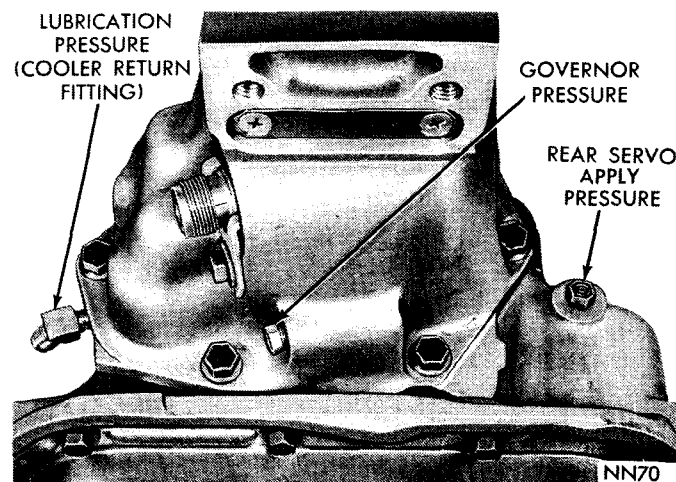

Fig. 15—Pressure Test Locations (Rear End of Case)
(1) Install a "tee" fitting between cooler return line fitting and fitting hole in transmission case at rear left side of the transmission (Fig. 15). Connect a 0-100 psi pressure gauge, Tool C-3292 to the "tee" fitting.
(2) At 1,000 engine rpm, with throttle closed and transmission in direct, lubrication pressure should be 5-15 psi. Lubrication pressure will be approximately doubled as the throttle is opened to maximum line pressure.
(1) Connect a 0-100 psi pressure gauge, Tool C-3292 to governor pressure take-off point, located at lower left side of extension near the mounting flange (Fig. 15).
(2) Governor pressures should fall within the limits given in the "Governor Pressure Chart" in specifications.